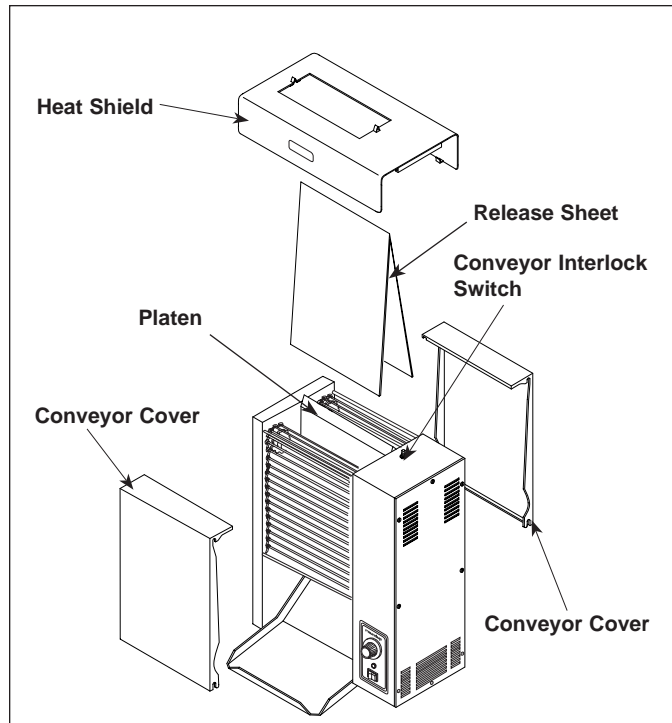

Figure 4. Installing Release Sheet
- Plastic bag containing the release sheet (Figure 4)
6. Install the Release Sheet by draping it over both sides of the Platen surface. The crease should be centered directly on top of the Platen (Figure 4).
7. Re-install the front and rear Conveyor Covers (Figure 4).
8. Install the Heat Shield so that the clips fit over the top of the Platen and retains the Release Sheet in place (Figure 4).
IMPORTANT: Make sure Heat Shield is activating the conveyor interlock switch (see Figure 4). The conveyors will not rotate unless the heat shield is in place and interlock switch is activated (depressed).
A Conveyor Interlock Safety Switch is located on top of the unit under the Heat Shield (Figure 4). The conveyors will not rotate unless the Heat Shield is properly in place and activating the Conveyor Interlock Safety Switch.
5. Remove the front and rear Conveyor Covers (Figure 4). Wipe the exterior of Conveyor Belt chains with a clean, sanitized towel.
6. Install front and rear Conveyor Covers (Figure 4) and turn the unit on. Count to 10, then turn toaster off. Remove the front and rear Conveyor Covers again and wipe newly exposed section of the Conveyor Belt chains. Re-install the front and rear Conveyor Covers.
2. Remove the Heat Shield, front and rear Conveyor Covers, and Release Sheet (Figure 4).